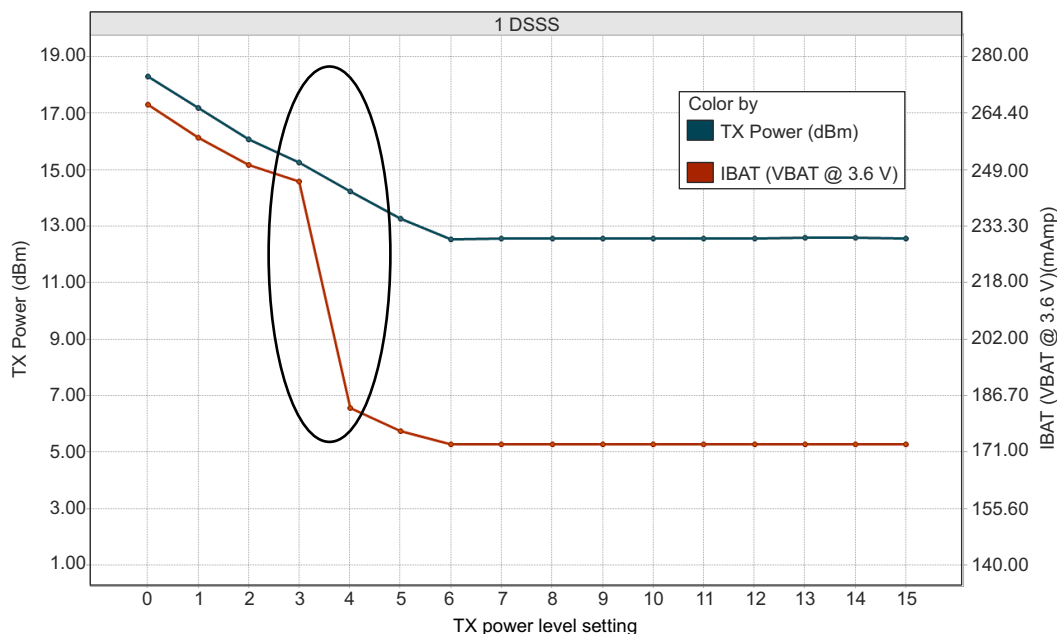
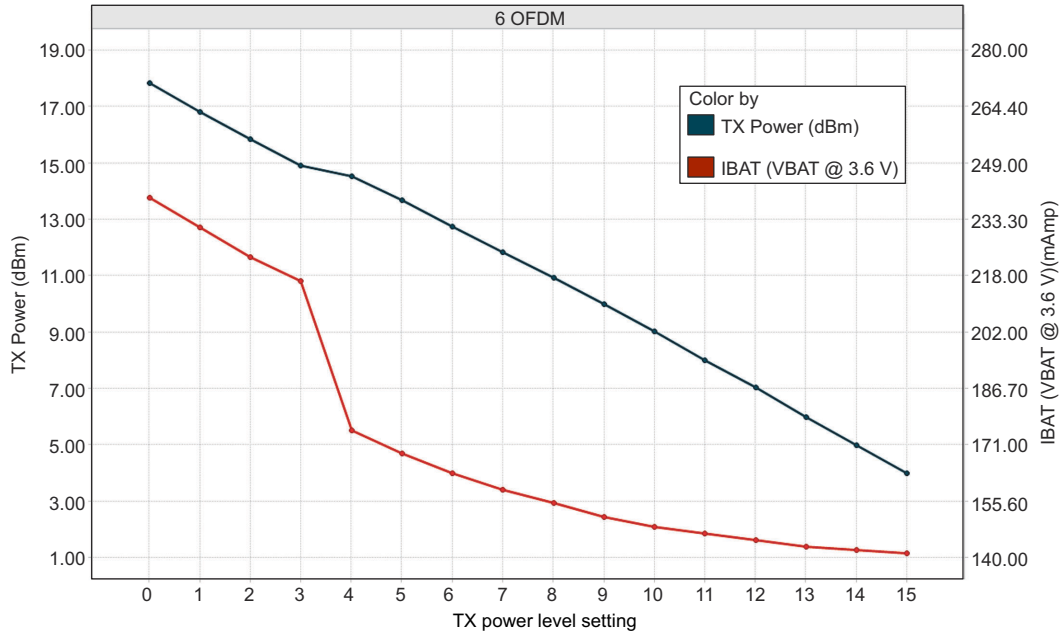
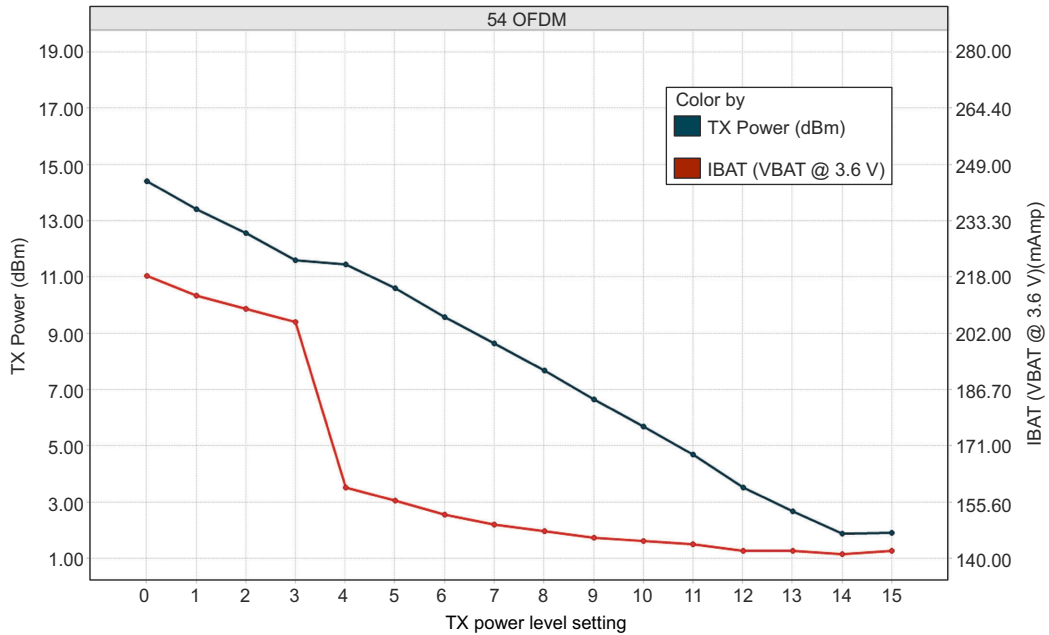

图 8-1. TX Power and IBAT vs TX Power Level Settings (1 DSSS)
图 8-2. TX Power and IBAT vs TX Power Level Settings (6 OFDM)
图 8-3. TX Power and IBAT vs TX Power Level Settings (54 OFDM)
(1) TX power level = 0 implies maximum power (see 图 8-2, 图 8-2, and 图 8-3). TX power level = 4 implies output power backed off approximately 4 dB.
(2) LPDS current does not include the external serial flash. The CC3235MODx and CC3235MODAx can be configured to retain 0 KB, 64 KB, 128 KB, 192 KB, or 256 KB of SRAM in LPDS. Each 64-KB block of MCU retained SRAM increases LPDS current by 4 μA.
(3) DTIM = 1
(4) The complete calibration can take up to 17 mJ of energy from the battery over a period of 24 ms. Calibration is performed sparingly, typically when coming out of HIBERNATE and only if temperature has changed by more than 20°C. The calibration event can be controlled by a configuration file in the serial flash.
(5) Typical numbers assume a VSWR of 1.5:1.
图 8-1, 图 8-2, and 图 8-3 show TX power and IBAT versus TX power level settings for the CC3235MODS module at modulations of 1 DSSS, 6 OFDM, and 54 OFDM, respectively. For the CC3235MODSF module, the IBAT current has an increase of approximately 10 mA to 15 mA depending on the transmitted rate. The TX power level remains the same.⁵
In 图 8-1, the area enclosed in the circle represents a significant reduction in current during transition from TX power level 3 to level 4. In the case of lower range requirements (14-dBm output power), TI recommends using TX power level 4 to reduce the current.